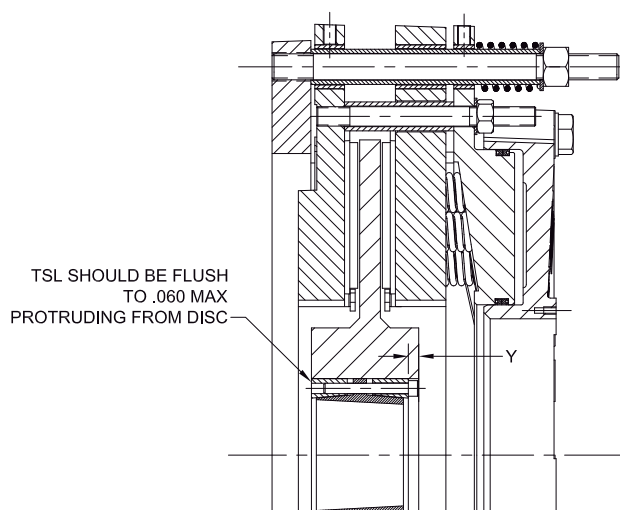

Figure 6
2.2.14 Verify the front clamp collar (8A) of the TSL (8) is flush with the taper at the end of the motor shaft and that the TSL is retracted within or flush with the hub portion of the disc (4). See Figure 6.